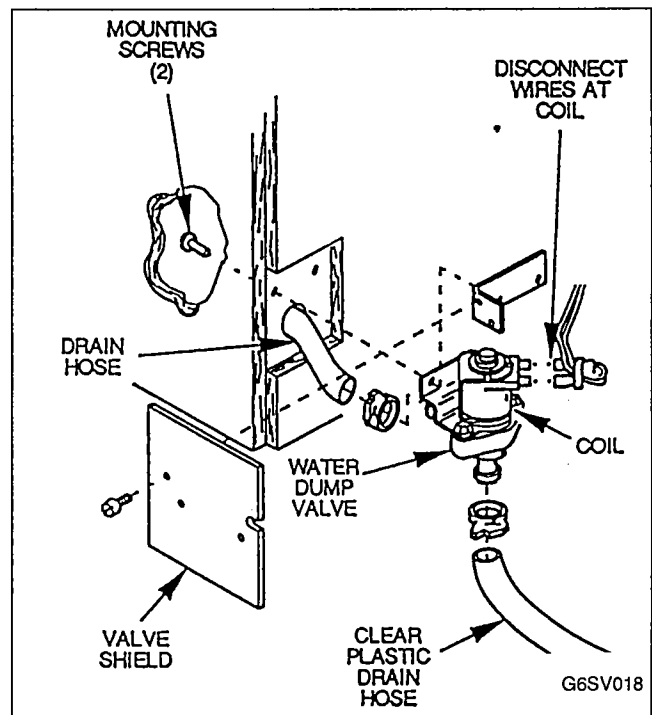

FIGURE 17. WATER DUMP VALVE REMOVAL
3. Check clear plastic outlet drain hose of dump valve, Figure 17, for leakage while the ice machine is in the freeze cycle.
REMOVE WATER DUMP VALVE (Figure 17)